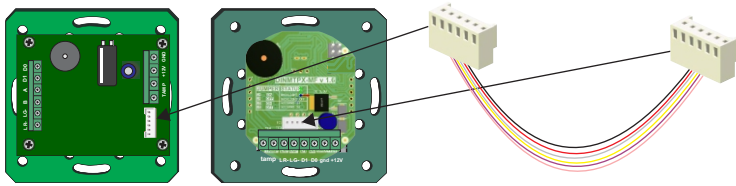

fig. 1
1. Connect both devices with the cable provided. (fig. 1)